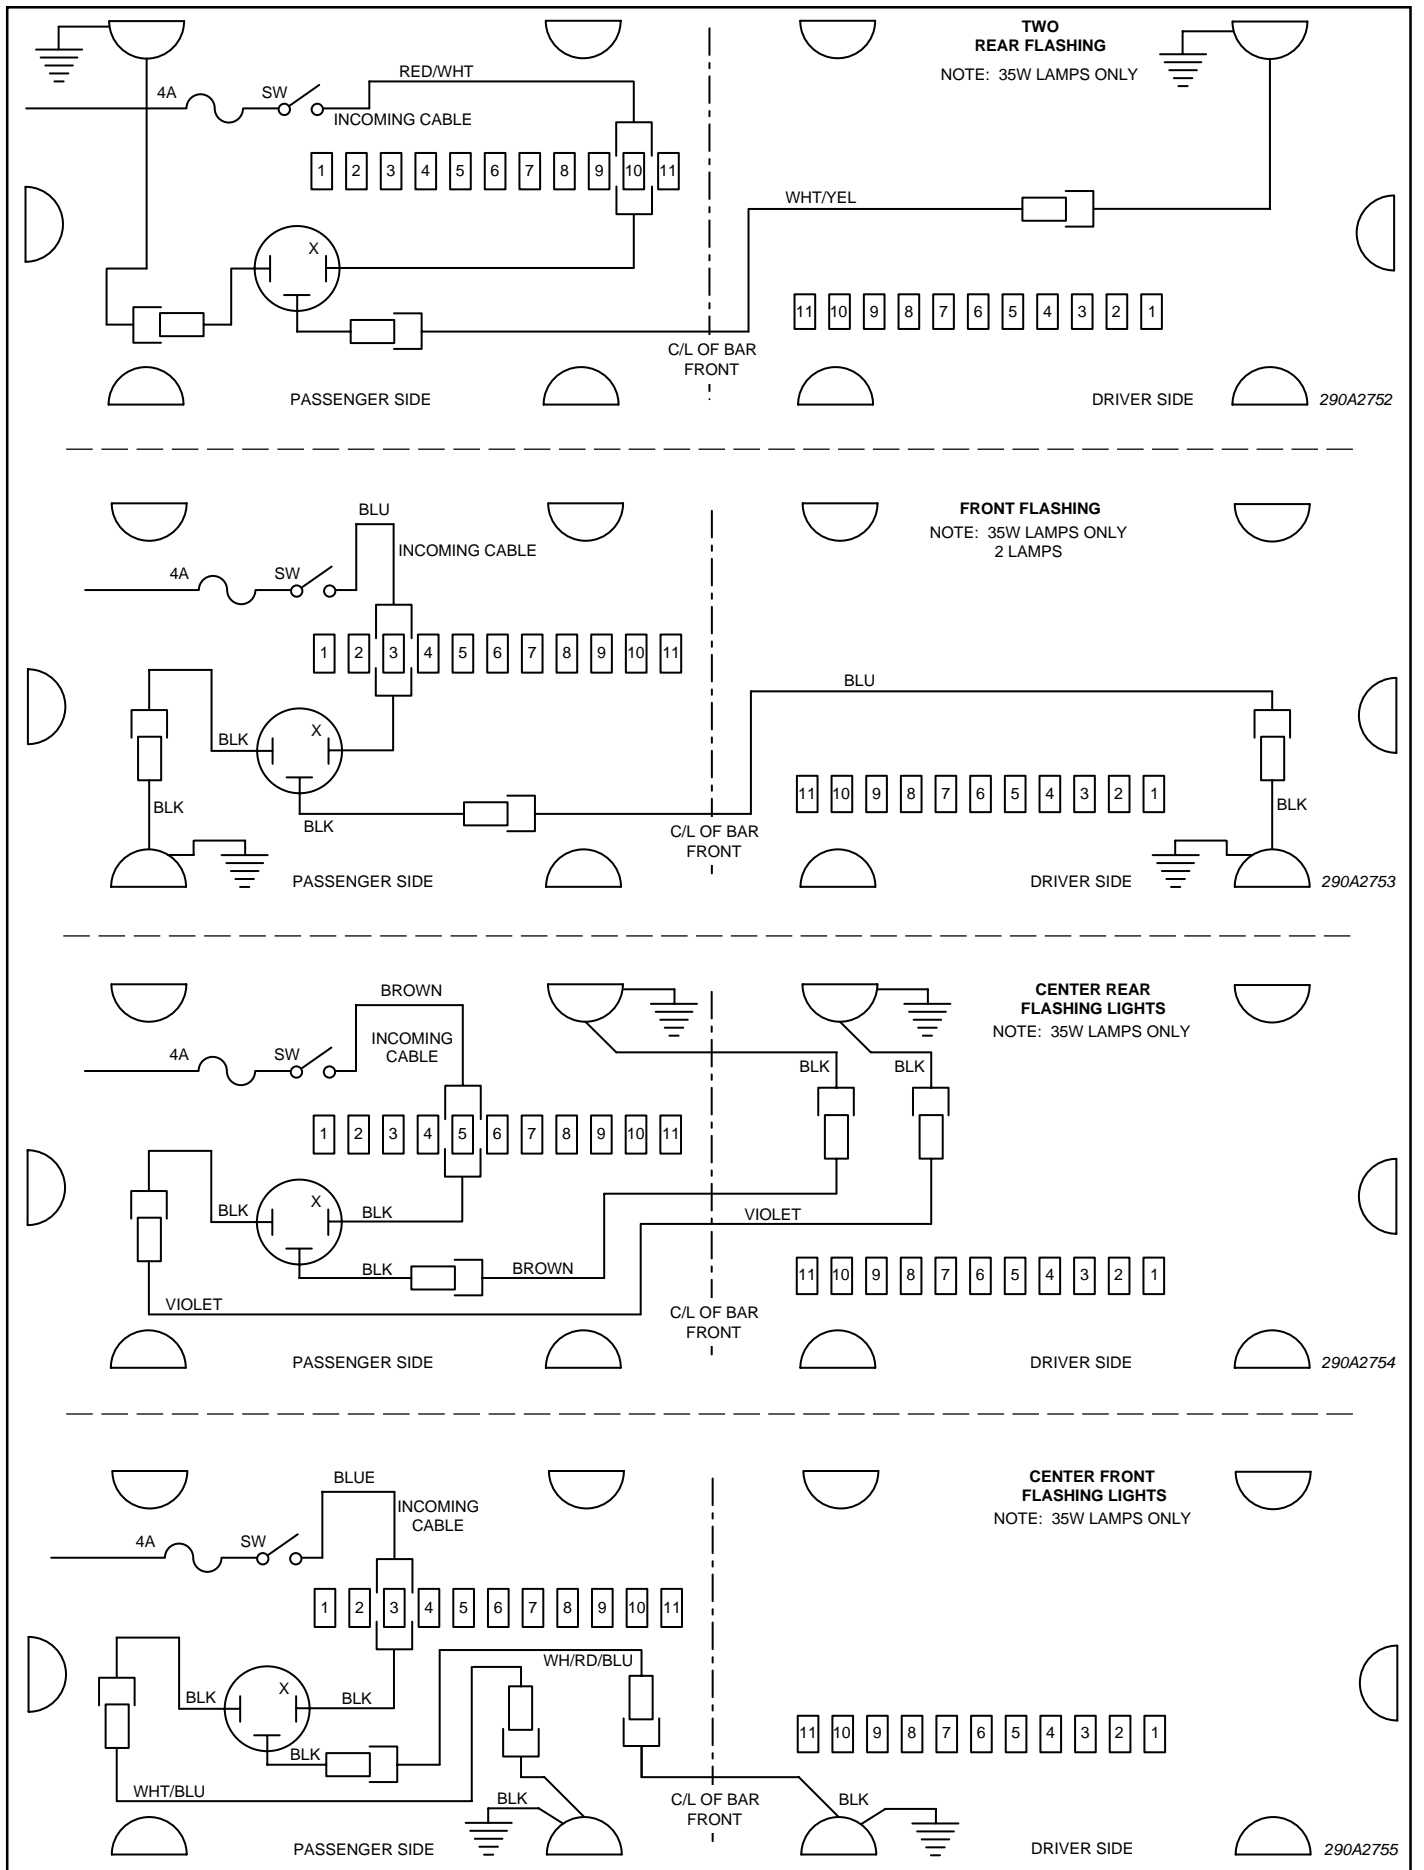

Figure 5.
2. See the applicable wiring diagram in figure 5. Using the applicable wires in the lightbar's wiring harness, attach the female terminal on each stationary light assembly's black wire to the appropriate terminals of the molded-in terminal strip.